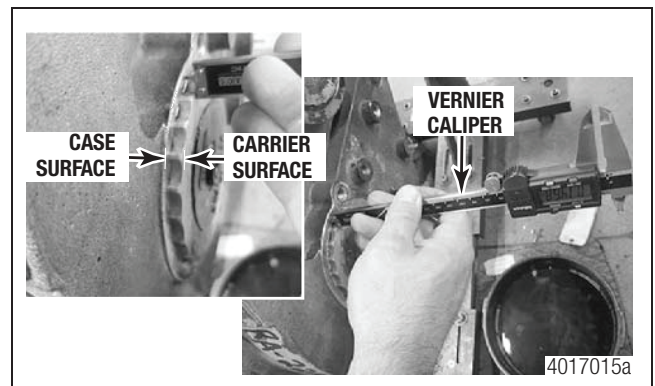

Figure 11.3
5. Using the back of a Vernier caliper as a depth gauge, measure the distance the adjustable bearing carrier is standing off the case surface. This measurement will be used as a secondary reference during reinstallation to make sure the adjustable bearing carrier is threaded back into the same location. Figure 11.3.